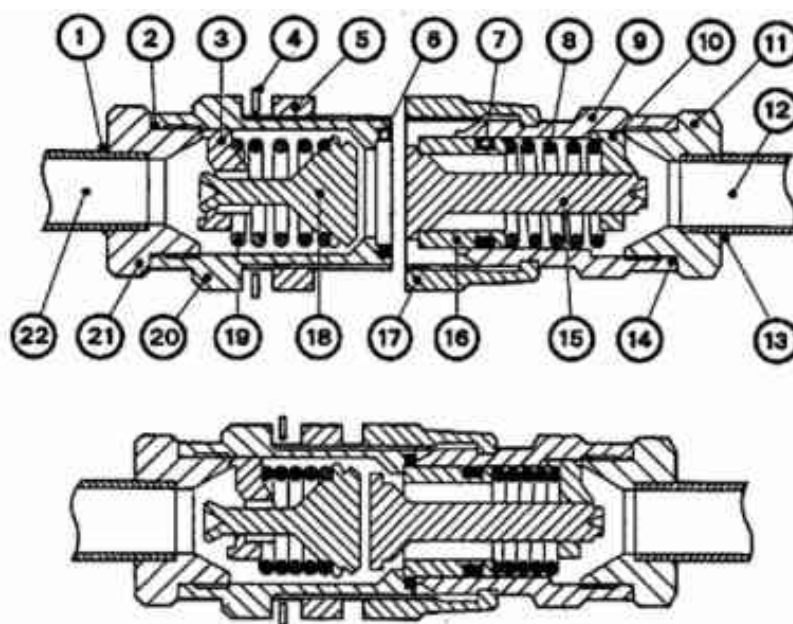
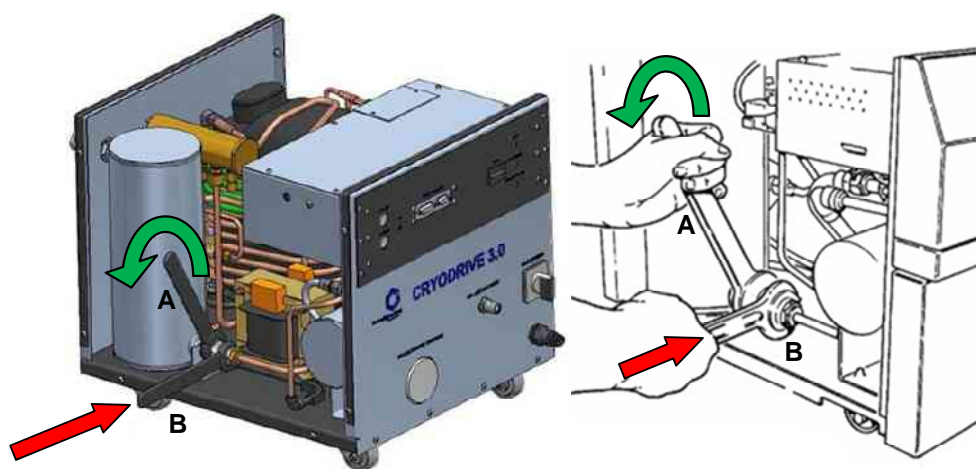

Figure 3.1 - Quick release aeroquip coupling
Figure 3.2 - Connecting and disconnecting a self-sealing coupling: new type Cryodrive (left) and old type Cryodrive (right)
Connect the helium gas lines between the compressor unit and coldhead, in the following order. Refer to Sections 3.3.3 and 3.3.4 and Figure 3.1 and Figure 3.2 for details of the self-sealing couplings used and the recommended procedures for connecting and disconnecting the couplings.
8. Take the two spanners and place them on the female half of the self-sealing coupling as shown in Figure 3.2.
1. Check that the internal surfaces of the two halves of the coupling are dean and that the rubber gasket is in place - refer to Figure 3.1 for details of the coupling.
3. Take the two spanners and place them on the female half of the self-sealing coupling as shown in Figure 3.2.